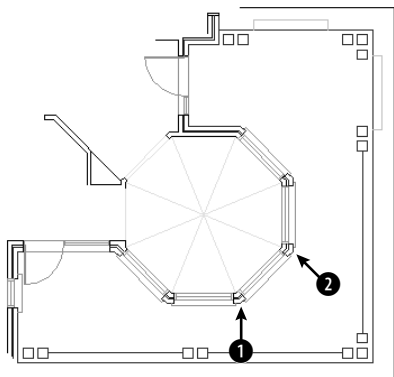

**Figure 14-9:** A section of a floor plan of a house.
2. Save the file as ab14-02.dwg in your AutoCAD Bible folder. This is part of a floor plan of a house, as shown in Figure 14-9. OSNAP should be on. Set running object snaps to endpoint and intersection. If the Dimension toolbar isn't visible, right-click any toolbar and choose Dimension.
Specify first extension line origin or <select object>: Choose **1** in Figure 14-9.
Specify second extension line origin: Choose **2** in Figure 14-9.